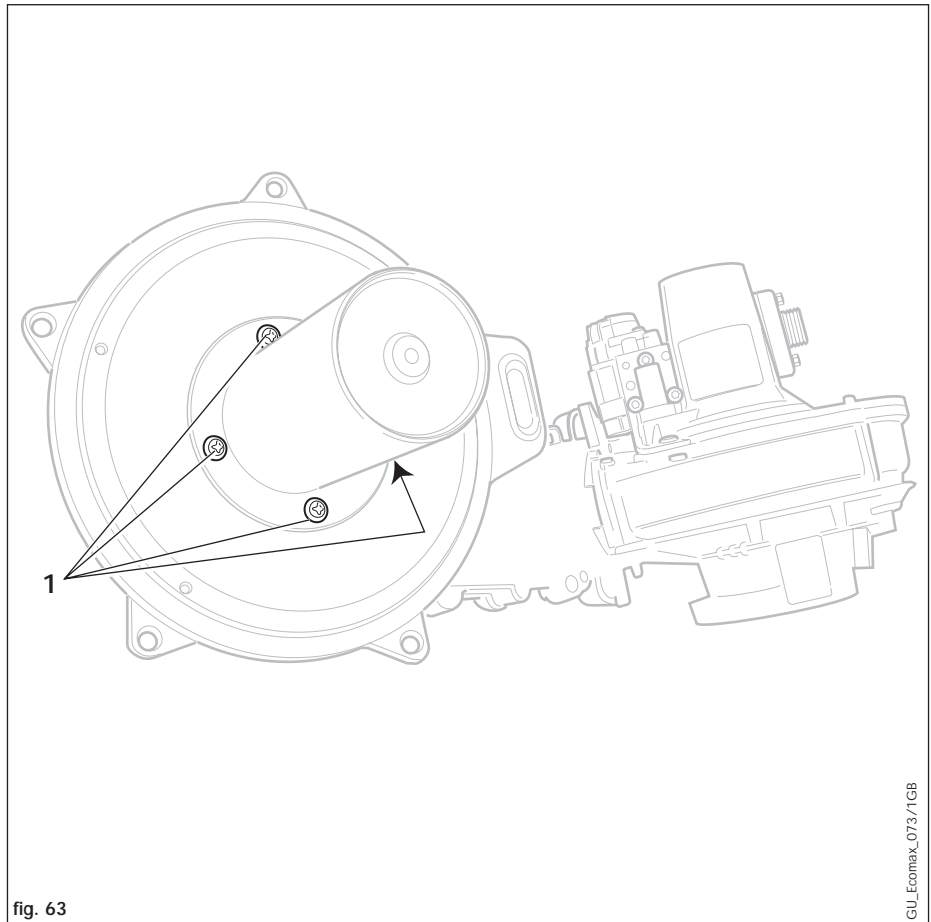

fig. 63
7.5 REPLACEMENT OF BURNER (FIG. 63)
- Remove 4 screws (1) securing burner to burner manifold.